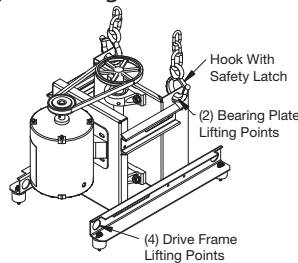

Figure 3 — Lifting Lugs
4. Use lifting lugs on the drive frame to lift and place the unit on top of curb. See Figure 3.